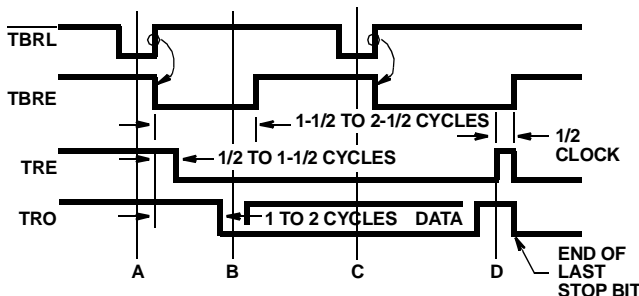

FIGURE 3. TRANSMITTER TIMING WAVEFORMS
Transmitter timing is shown in Figure 3. (A) Data is loaded into the transmitter buffer register from the inputs TBR1 through TBR8 by a logic low on the TBRL input. Valid data must be present at least t_{DT} prior to, and t_{TD} following, the rising edge of TBRL. If words less than 8-bits are used, only the least significant bits are used. The character is right justified into the least significant bit, TBR1. (B) The rising edge of TBRL clears TBRE. 1/2 to 11/2 cycles later, depending on when the TBRL pulse occurs with respect to TRC, data is transferred to the transmitter register and TRE is cleared. TBRE is set to a logic High one cycle after that. (C) A second pulse on TBRL loads data into the transmitter buffer register. Data transfer to the transmitter register is delayed until transmission of the current character is complete. (D) Data is automatically transferred to the transmitter register and transmission of that character begins.